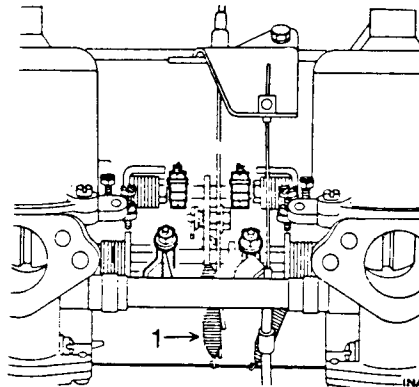

Fig B4.9
- (17) Refer to Fig B4.9. Release the accelerator return spring (1).